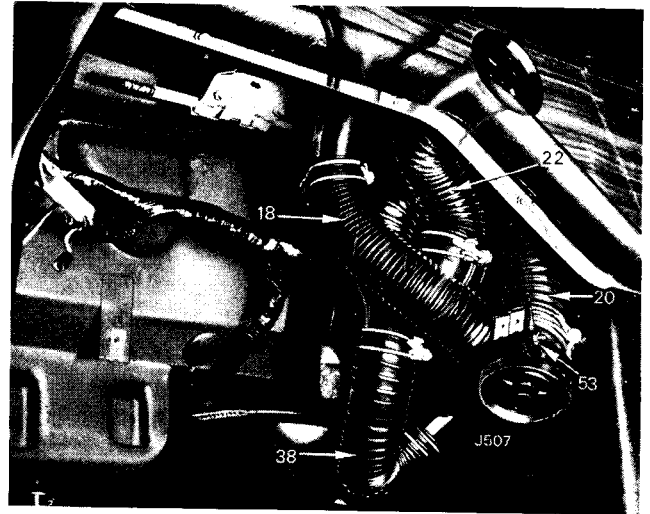

Fig. 63. Air hoses-view under facia
5. Disconnect the air hoses (18), (38), (43) and (49) (Fig. 63) from the heater box.
6. Slacken the setscrew (44) and the clamping screw (42) and release the control cable from the bottom right hand side of the heater box. Disconnect the cables to the heater blower motor.
7. Remove four bolts (16) securing the heater unit to the dash bulkhead and manoeuvre the unit from behind the facia.
To Remove Foot Well Air Vents (Fig. 63)